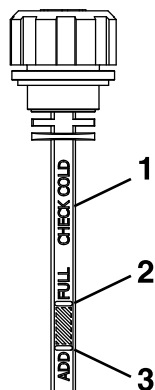

Figure 29
6. Remove the cap again and check the level of the oil on the dipstick. See Figure 29 for oil levels.